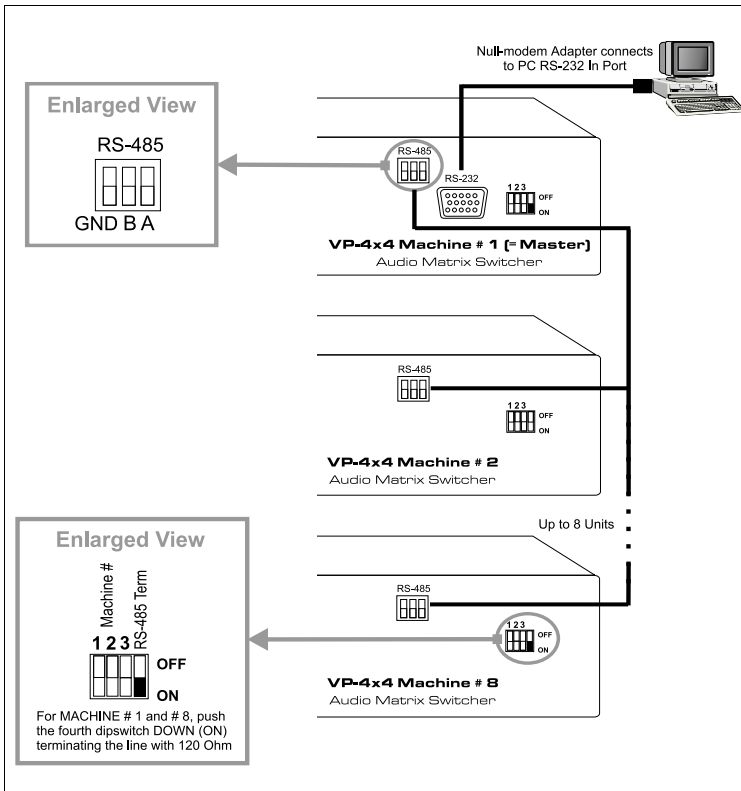

Figure 3: VP-4x4 Connections
- Connect the RS-232 DB9 rear panel port on the Master **VP-4x4** unit to the Null-modem adapter and connect the Null-modem adapter with a 9 wire flat cable to the RS-232 DB9 port on your PC, as Figure 3 illustrates
Connect a Phoenix terminal block cable connector to the RS-485 port on each **VP-4x4** unit in the series¹, as Figure 3 illustrates.
The **VP-4x4** includes a set of 4 dipswitches, as Figure 3 illustrates above. You configure each **VP-4x4** unit by setting the dipswitches as follows: